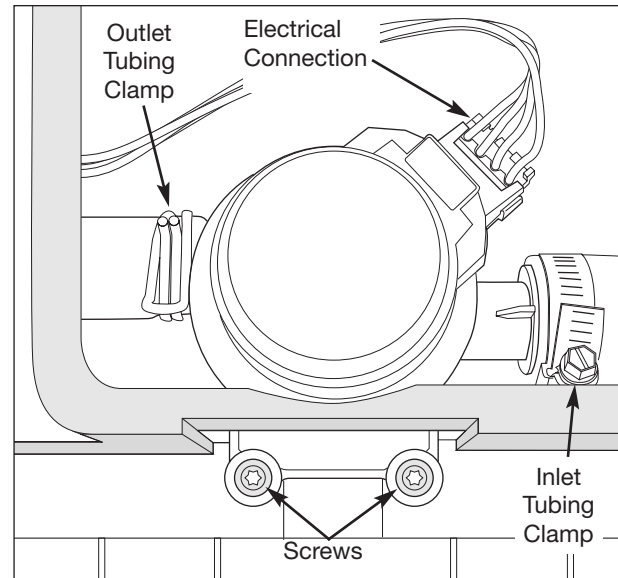

Figure 5-42. Drain Valve Removal
3. Using a flat bladed screwdriver, loosen the tubing clamp from the input end of the drain valve. Use a pliers to remove the spring clamp from the tubing connected to the drain outlet. Pull tubing from drain valve. (See Figure 5-42)